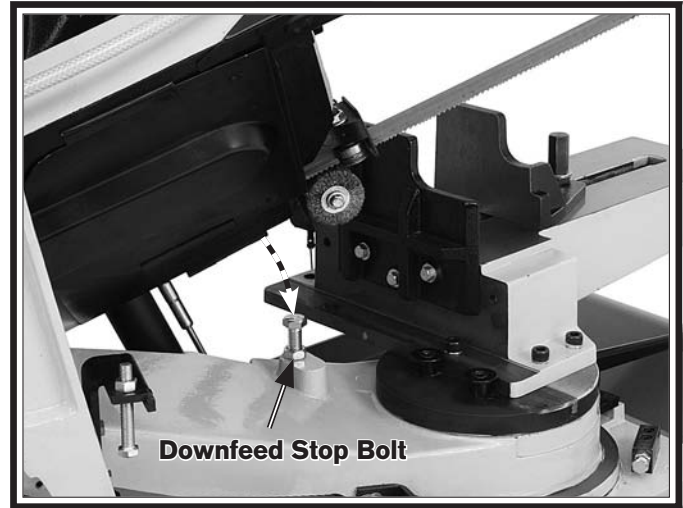

Figure 11. Adjusting downfeed stop bolt.
2. Adjust the downfeed stop bolt and jam nut shown in **Figure 11** with a 14mm wrench, so the bandsaw blade teeth are just below the table surface when the cut is complete.